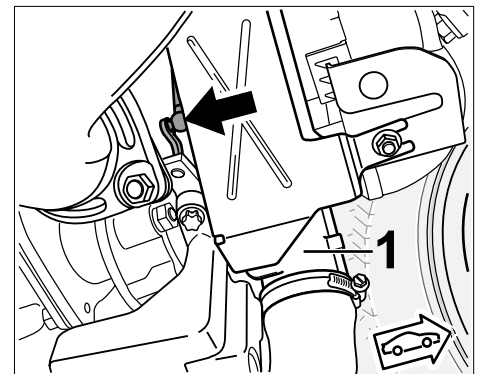

Figure 3
- 2.2 On the turbocharger on the **left** in direction of travel (⇒ *Figure 3 -item 1-*), check that the adjustment mechanism (⇒ *Figure 3 -arrow-*) can be moved freely.